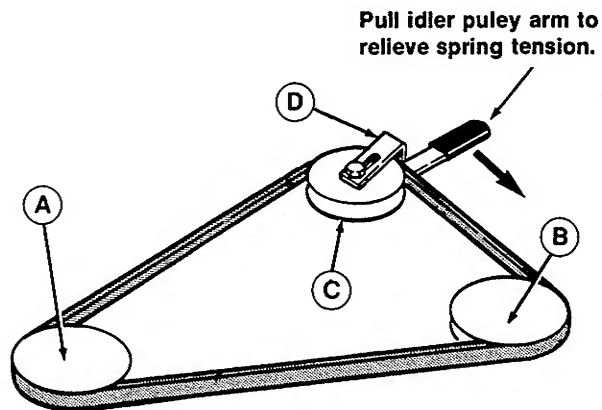

Figure 22. Mower Drive Belt Pattern
7. To install mower, reverse above steps. Check mower belt pattern as shown in figure 22.